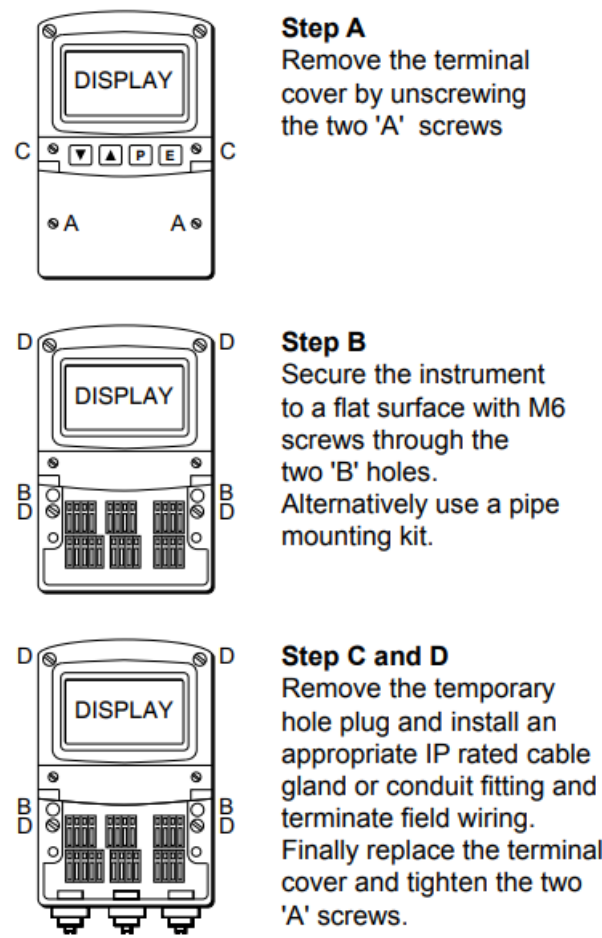

Fig 1 BA374E installation procedure
- To gain access to the escutcheon remove the terminal cover by unscrewing the two 'A' screws which will reveal two concealed 'D' screws. Remove the push buttons by unscrewing the two 'C' screws and un-plug the five way connector. Finally, unscrew all four 'D' screws and carefully lift off the front of the instrument. The location of all the screws is shown in Fig 1.